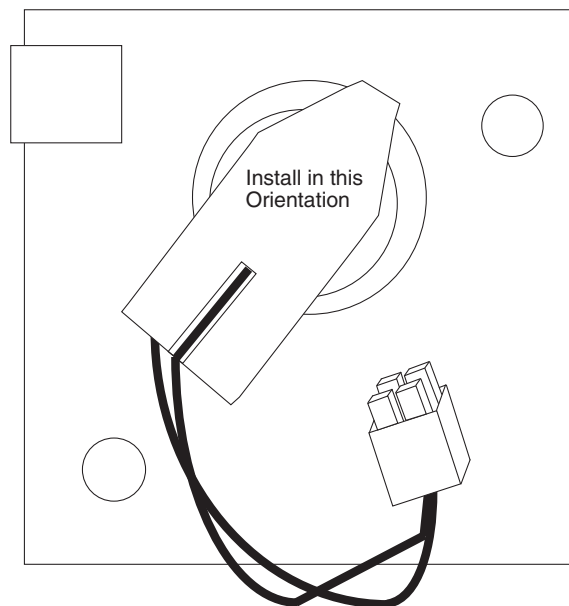

Fig. 72 — Compressor Motor Sensor Harness Installation (under motor protection module)
1. A new S1-S2 thermistor wiring harness is shipped with the CoreSense kit and must be used. The wiring harness connector block should be fully inserted on the three pins in the orientation shown in Fig. 72 for proper operation.